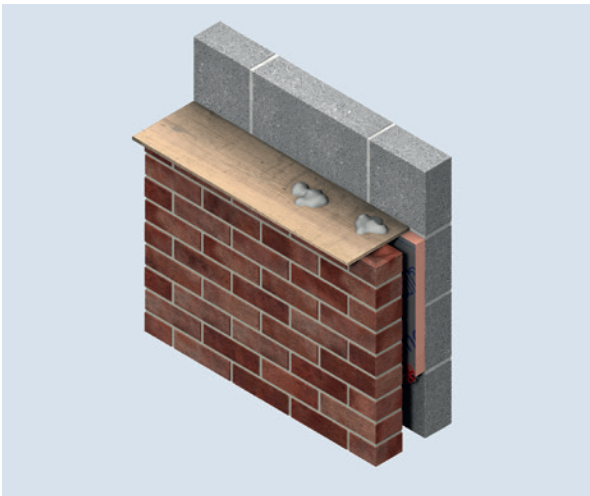

Figure 7 – Use of a Cavity Board to Protect the Cavity and Insulation Board Top Edge
- Use of a cavity batten or cavity board is recommended to protect board edges and maintain a clear cavity (see Figures 7 & 8 or refer to BBA Certificate 16/5299).